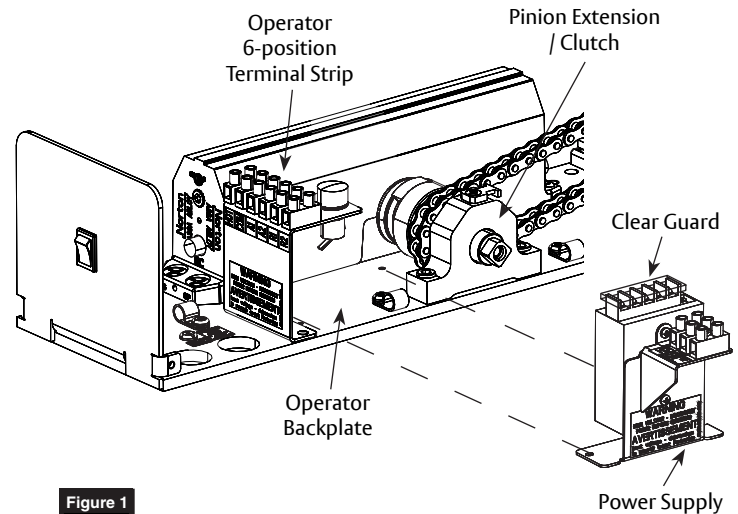

Figure 1
2. Install one (1) 6-32 x 1/4" screw provided with power supply in mounting hole closest to Pinion Extension / Clutch. (Figure 1)